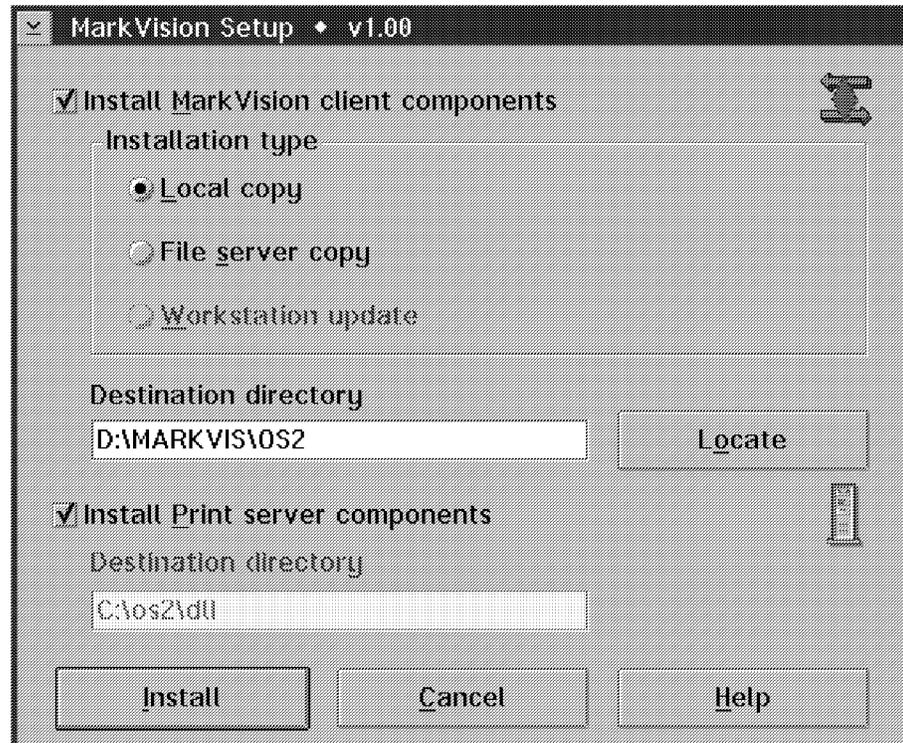

Figure 195. MarkVision Setup Screen
By selecting MarkVision on this screen and clicking on the **Install** button, you will get to the MarkVision Setup screen shown in Figure 195 on page 258. If you run SETUP.EXE from the \BPIU\MARKVISN directory, this is the first screen you will see.
1. From the directory where the MarkVision server copy resides, type `SETUP`. The MarkVision Setup menu will open (see Figure 195).